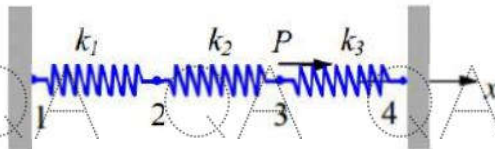

Figure 1
2. For the spring system shown in the figure 1. Find the displacements at the nodes and the reactions. Given $K_1=100$ N/mm, $K_2=200$ N/mm, $K_3= 100$ N/mm, $P=500$ N. [10]